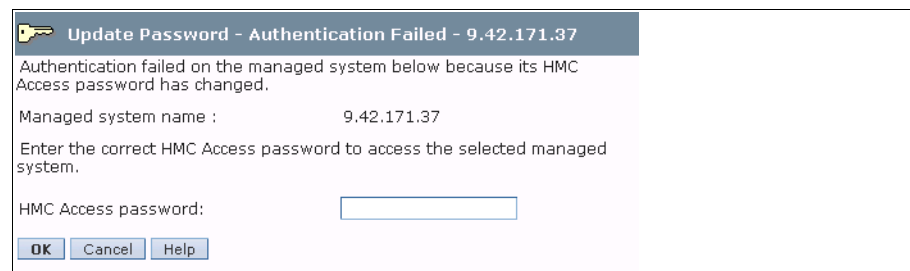

Figure 7-105 Update Password window
2. Enter the correct password in the Update Password window, as shown in Figure 7-105. Click **OK**.